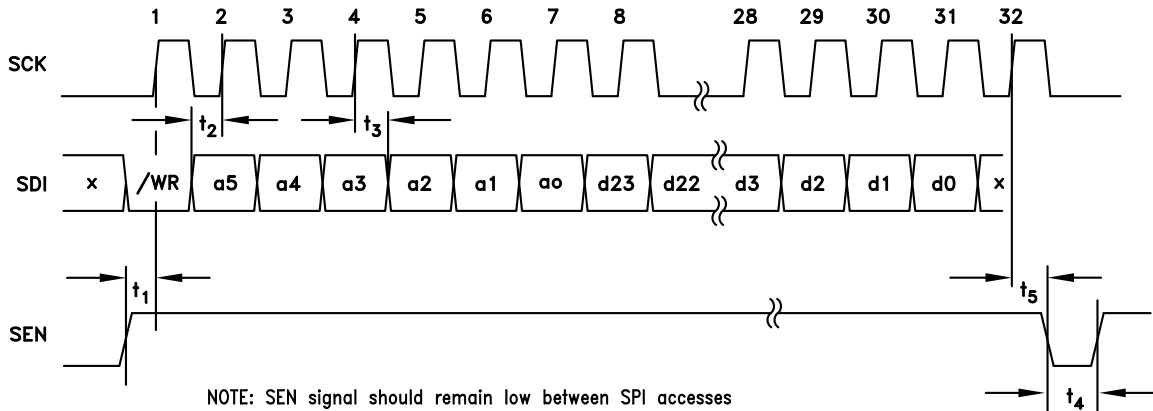
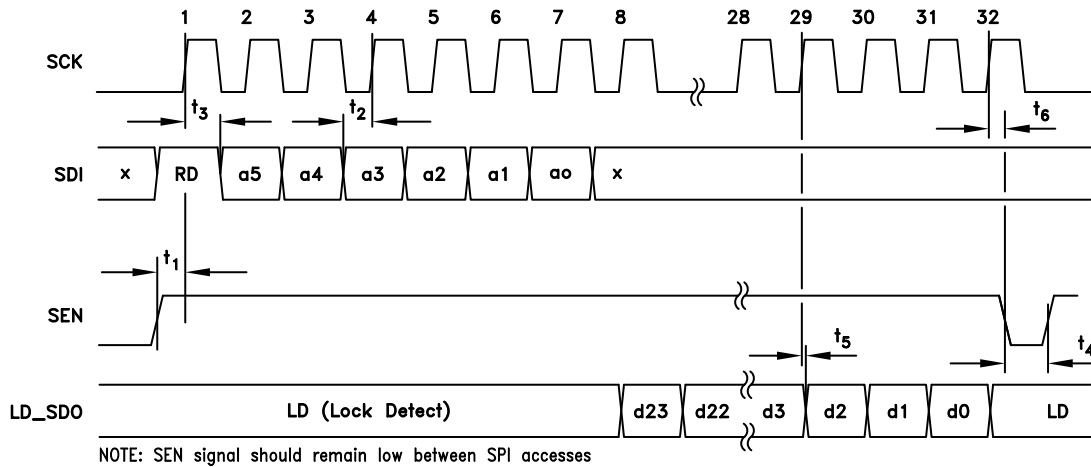

Figure 45. HMC Mode - Serial Port Timing Diagram - WRITE
Figure 46. HMC Mode - Serial Port Timing Diagram - READ
The HMC Mode protocol, shown in figures Figure 45 and Figure 46, is designed for a 4 wire interface with a fixed protocol featuring
A typical HMC Mode WRITE cycle is shown in Figure 45.
A typical HMC Mode READ cycle is shown in Figure 46.
- a. The Master (host) asserts both SEN (Serial Port Enable) and SDI to indicate a READ cycle, followed by a rising edge SCLK. Note: The Lock Detect (LD) function is usually multiplexed onto the LD_SDO pin. It is suggested that LD only be considered valid when SEN is low. In fact LD will not toggle until the first active data bit toggles on LD_SDO, and will be restored immediately after the trailing edge of the LSB of serial data out as shown in Figure 46.
- b. The slave (HMC833LP6GE) reads SDI on the 1st rising edge of SCLK after SEN. SDI high initiates the READ cycle (RD)